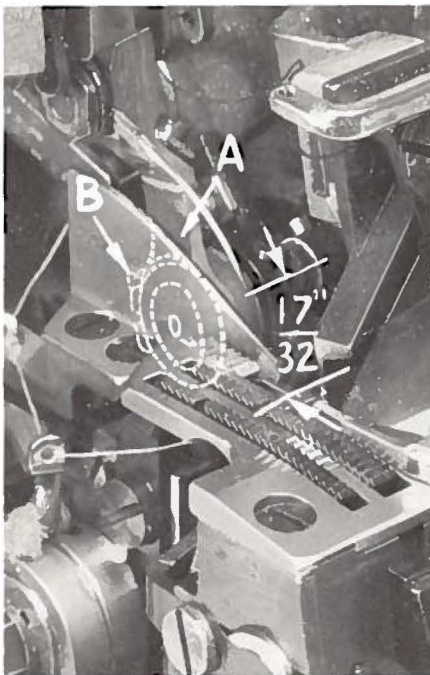

Fig. 3
With throat plate assembled in position, needle should center in the front end of needle slot. When needle is at high position, needle point should be set  $\frac{17}{32}$  inch above throat plate (Fig. 3). To align needle or set the height above throat plate, move needle driving arm (A, Fig. 3) by loosening clamp screw (B). Remove throat plate, after needle has been set properly and clamp screw (B) has been tighten.